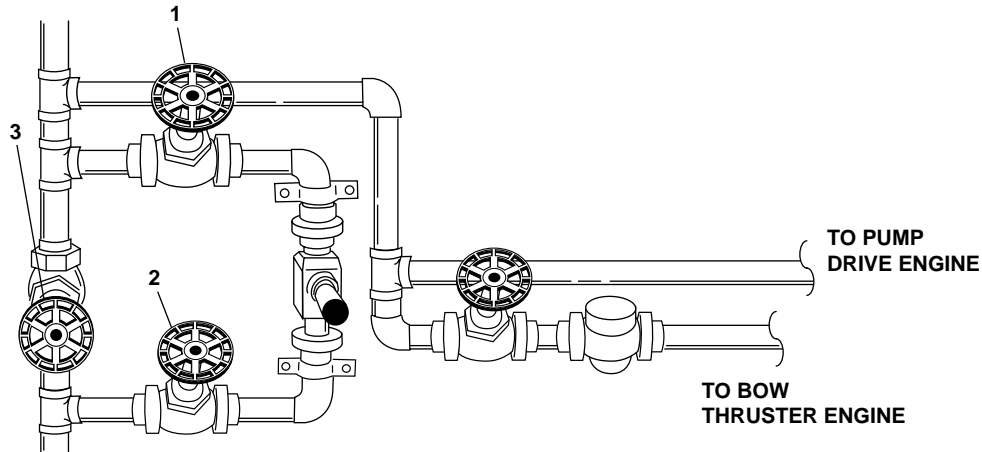

Figure 6. Ship's Service Air System Valve Locations (Forward Bulkhead)
1. OPEN valves CA-39 SVCE AIR TK INL (figure 6, item 1) and CA-40 SVCE AIR TK INL (figure 6, item 2).
2. Check that valve CA-41 BYP RDC STA (figure 6, item 3) is CLOSED.
3. CLOSE valves CA-40 SVCE AIR TK INL (figure 6, item 1) and CA-39 SVCE AIR TK INL (figure 6, item 2).